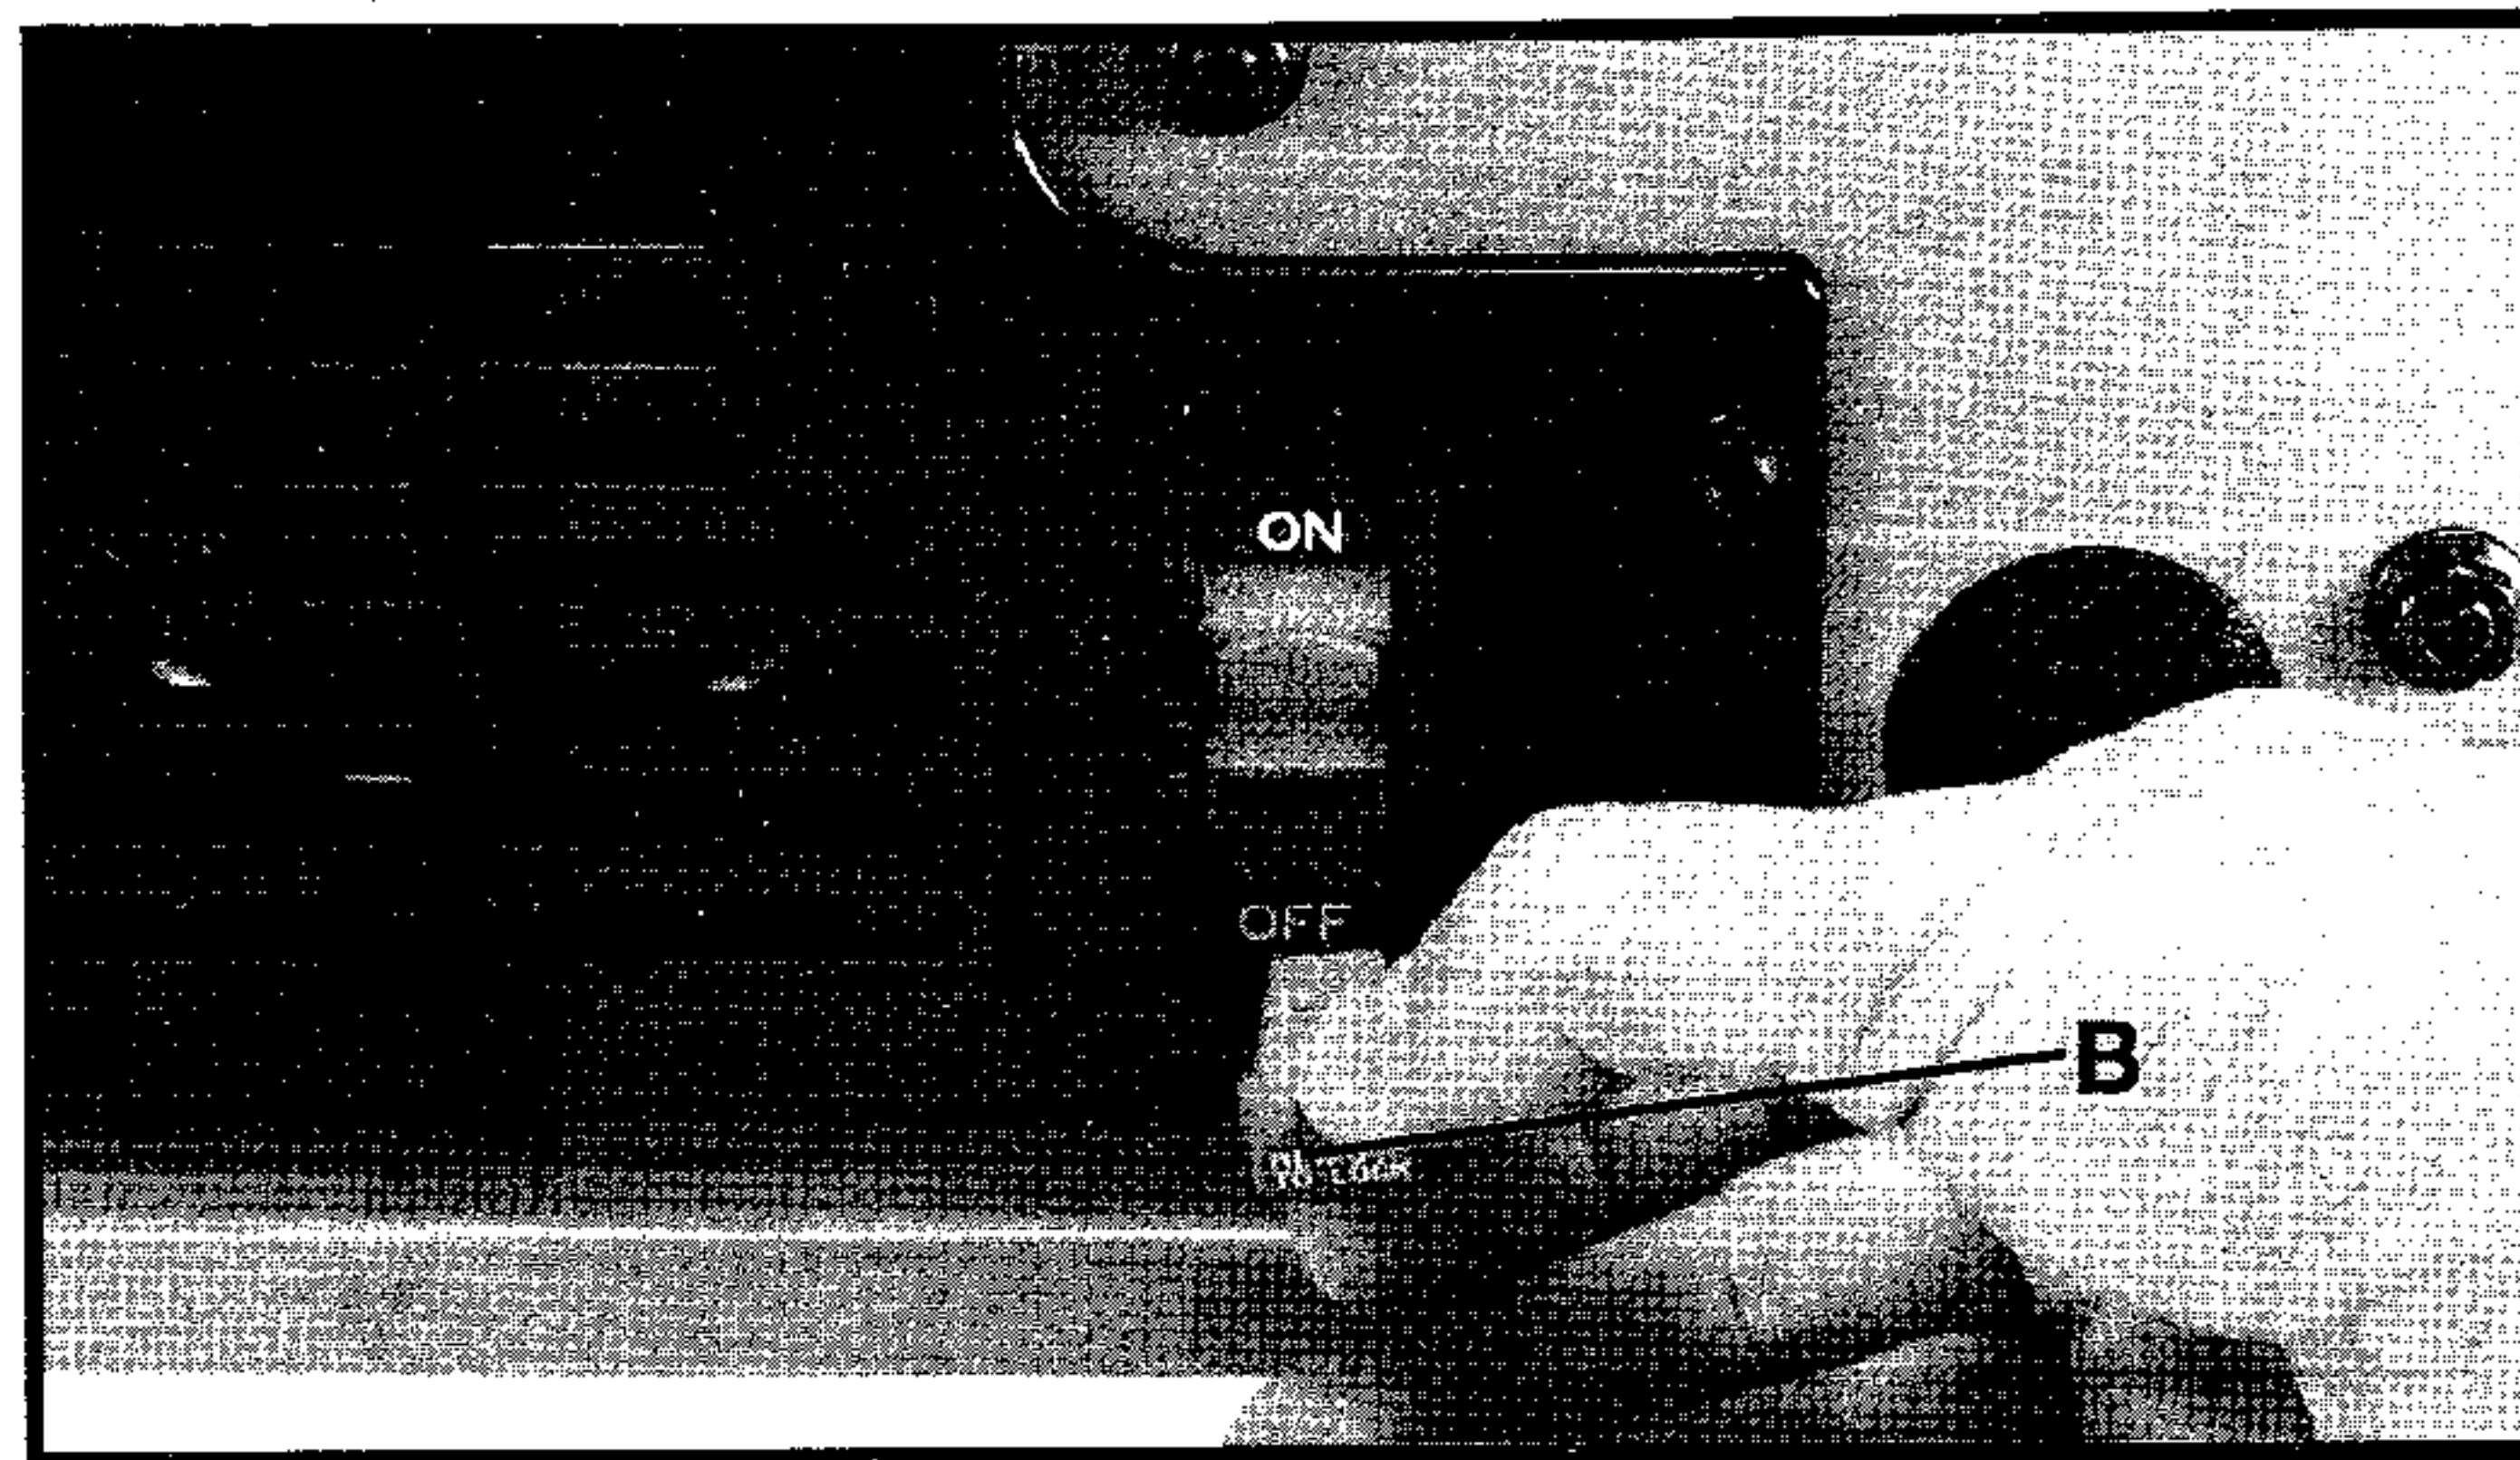

Fig. 22
IMPORTANT: When the tool is not in use, the switch should be locked in the "OFF" position to prevent unauthorized use. To lock the switch, grasp the switch toggle (B) Fig. 22 and pull it out of the switch. With the switch toggle (B) removed, the switch will not operate. However, should the switch toggle be removed while the saw is running, the machine can be turned "OFF," but cannot be restarted without re-inserting the switch toggle (B).